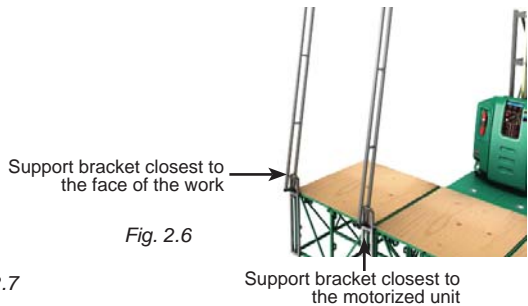

Fig. 2.6
- 1- Remove the pin on the support bracket. Load the support bracket on top of the bridge that is closest to the face of the work, making sure that the bushings on the vertical post are aligned with the external bushings of the bridge (fig. 2.6).
- 4- Repeat steps 1 through 3 for the second support bracket, this time on the edge that is closest to the unit (fig. 2.6).